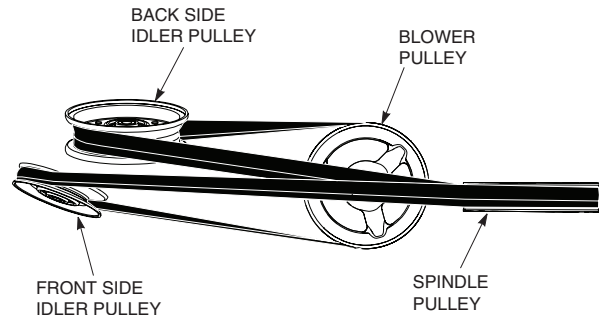

Figure 2-8. Belt Routing
12. Install the belt to the spindle pulley. When replacing the belt. See Figure 2-8 for belt routing.